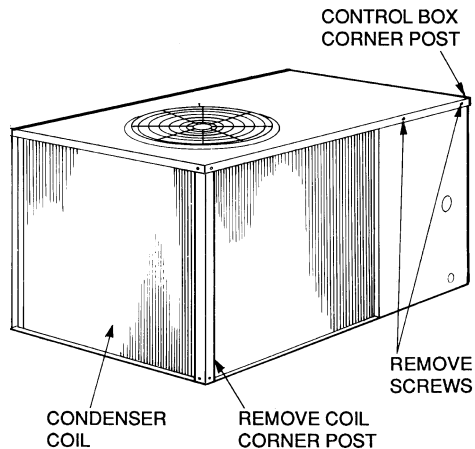
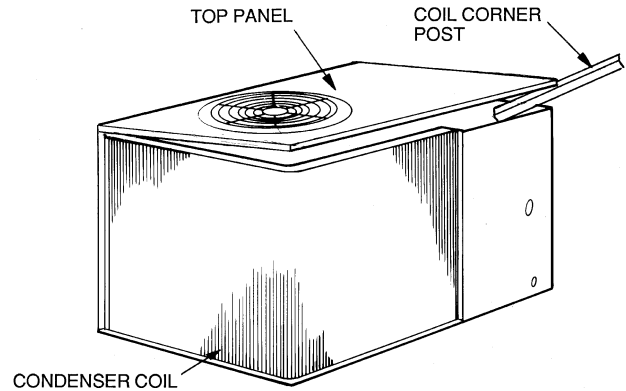

Fig. 8 — Cleaning Condenser Coil
Fig. 9 — Propping Up Top Panel
3. Remove condenser coil corner post. See Fig. 8. To hold top panel open, place coil corner post between top panel and side panel. See Fig. 9.